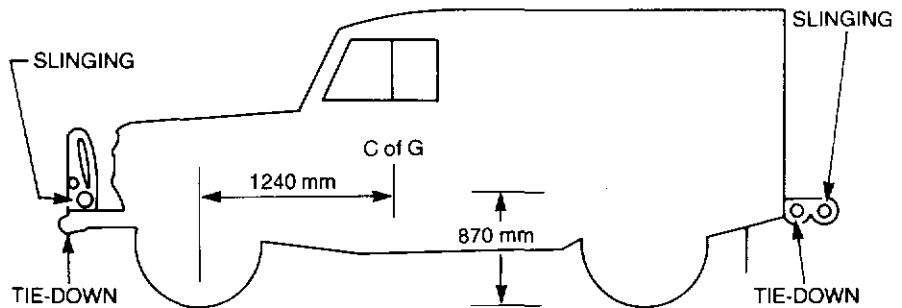

Figure 1-3 Slinging and tie-down points
32. Slinging and tie-down points are illustrated in Fig. 1-3.